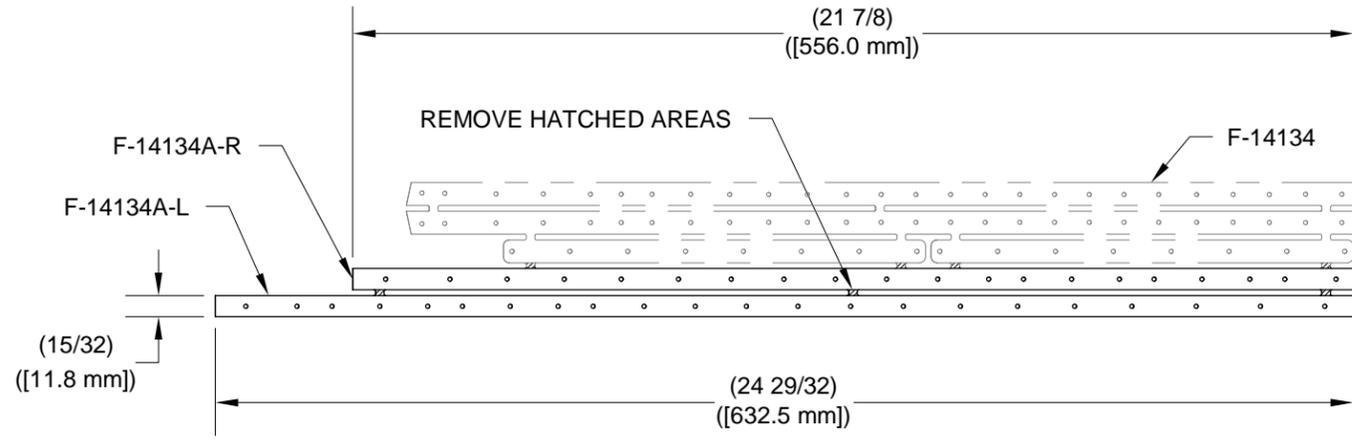

FIGURE 1: COWL HINGE SHIMS
Step 1: Locate and separate the F-14134A-L & -R Cowling Hinge Shims. See Figure 1.